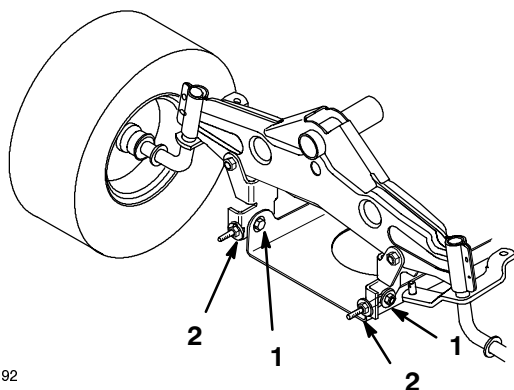

Figure 56
7. To adjust front-to-rear blade slope loosen front pivot plate mounting bolts slightly (Fig. 56).
8. Rotate lock nuts on eyebolts to change adjustment (Fig. 56). To raise the front of the mower tighten the eyebolt lock nuts. To lower the front of the mower loosen the eyebolt lock nuts.
9. After adjusting both eyebolt lock nuts evenly, check the front-to-rear slope again. Continue adjusting eyebolts until the front blade tip is $0\text{--}\frac{5}{16}$ " (0–8 mm) lower than the rear blade tip (Fig. 56).
10. When front-to-rear slope is correct, tighten the pivot plate mounting bolts (Fig. 56).